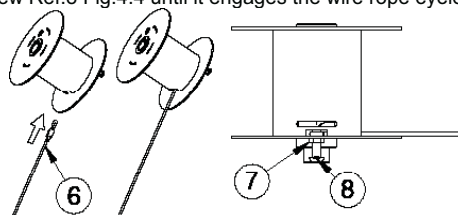

Fig. 4.4
4) Insert the new wire rope (Ref.6 Fig.4.4) in the hole and place the eyelet under the nut welded on the drum (ref.7 Fig.4.4) and insert the screw Ref.8 Fig.4.4 until it engages the wire rope eyelet